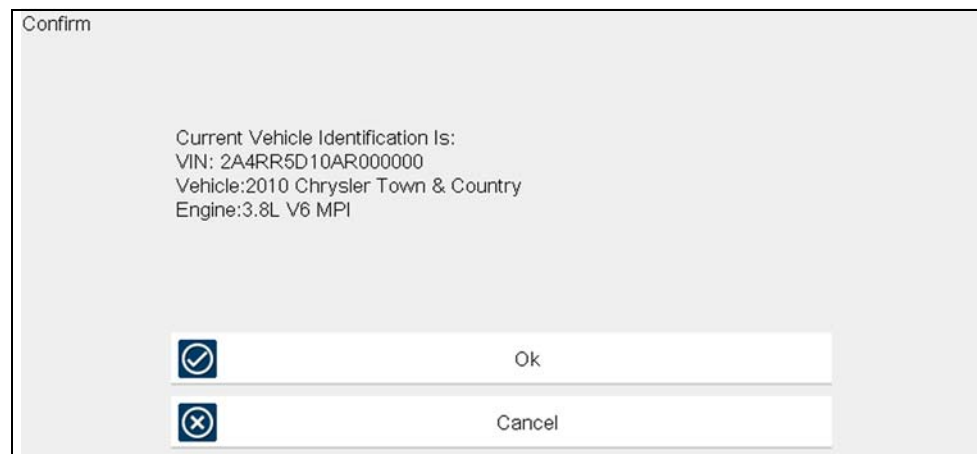

Figure 5-3 Vehicle confirmation screen
- a. Instant ID may occur, as indicated by an audible "beep" approximately 6 seconds after boot-up. Select the **Scanner** icon, then wait for the vehicle confirmation screen (Figure 5-3) and select **OK** to continue. Then proceed to **step 6**. See Instant ID on page 18, for additional information about this function.
b2.) Once the vehicle has been identified, the vehicle confirmation screen displays (Figure 5-3). If the vehicle information is correct, select **OK** to continue, then proceed to step 6.